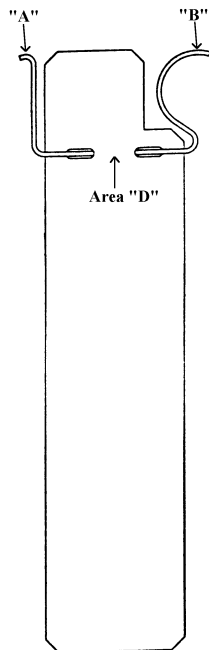
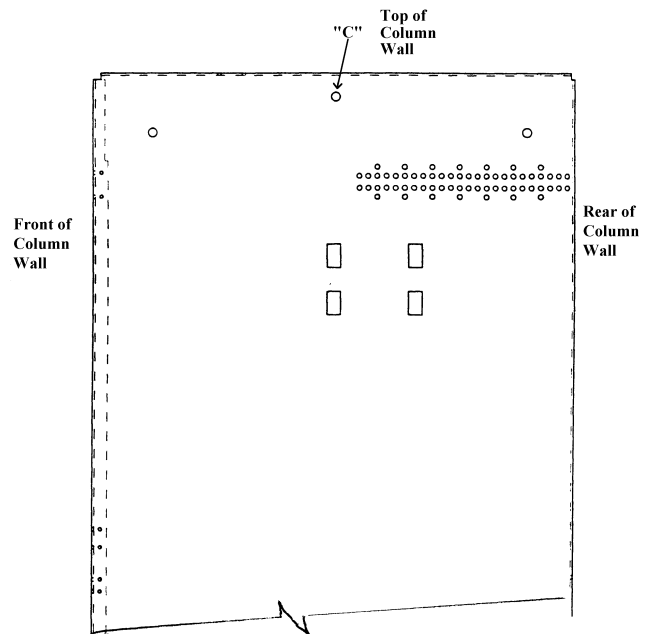

Figure 1
Figure 2
- A) Place Bottle Divider Assembly in position with area "D" (see figure 1) towards the front as shown.
- B) Spring clip end "A" (see figure 1) goes in the center hole "C" at the top of the narrow column wall on the left (see figure 2).
- C) Spring clip end "B" (see figure 1) goes in the center hole at the top of the narrow column wall on the right (see figure 2).
1. Unhook spring clip ends "A" and "B" (see figure 1) of Bottle Divider Assembly and lay bottle divider on top of the front bottles.
- B) Spring clip end "A" (see figure 1) goes in the center hole at the top of the narrow column wall on the left (see figure 2).
- C) Spring clip end "B" (see figure 1) goes in the center hole at the top of the narrow column wall on the right (see figure 2.)